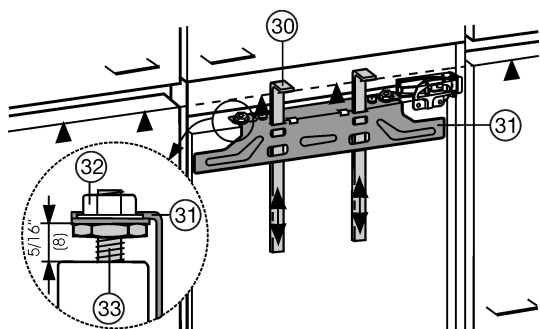

Fig. 19
- ▶ Slide up the assembly aids *Fig. 19 (30)* to the height of the unit door. Lower stop edge ▲ of the assembly aid = upper edge of the unit door to be fitted.
- ▶ Unscrew the crosspiece *Fig. 19 (31)* by undoing the locknuts *Fig. 19 (32)*.